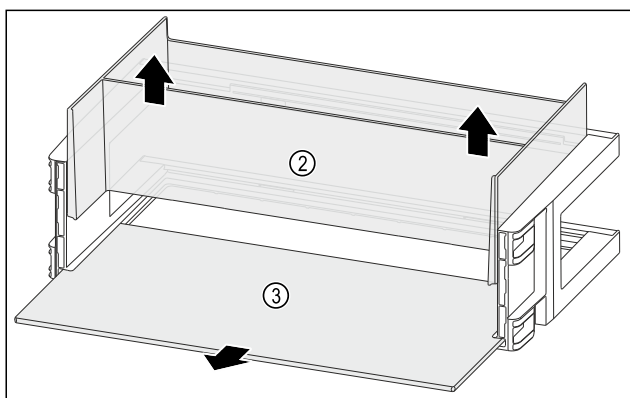

Fig. 93
- Izvadite organizator Fig. 93 (2) prema gore.
- Izvadite полицu Fig. 93 (3).